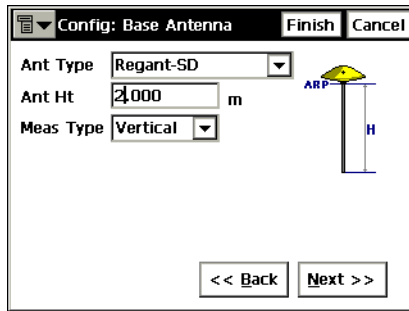

Figure 3-10. Config: Base Antenna
3. Configure the Base Antenna settings and tap **Next** (Figure 3-10 on page 3-9).